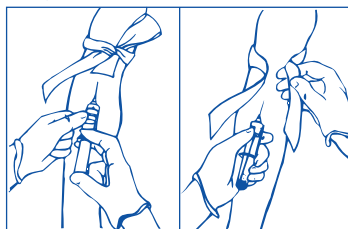

Figure 1
6. Remove needle shield. Perform venipuncture **WITH PATIENT’S ARM IN A DOWNWARD POSITION AND TUBE STOPPER UPPERMOST** (see Figure 1). This reduces the risk of backflow of any anticoagulant into the patient’s circulation.